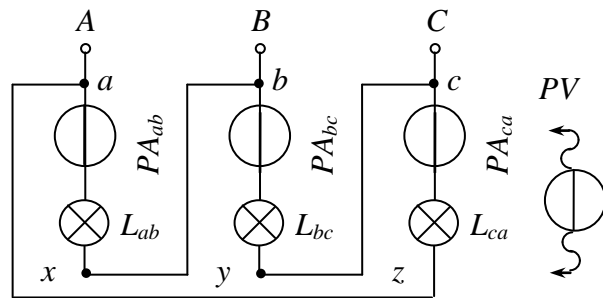

Fig. 7.5
2. Investigate the circuit (fig.7.5) with balanced loading (SB_1 and SB_2 closed, switch « $L \leftrightarrow \mathcal{I}$ » in position \mathcal{I}). Fill in the table 7.2 with results.
3. Investigate the circuit (fig.7.5) with non-balanced loading (SB_1 and SB_2 opened, switch « $L \leftrightarrow \mathcal{I}$ » in position \mathcal{I}). Fill in the table 17.3 with results.
4. Investigate the circuit (fig.7.5) with balanced loading ($SB 1$ and $SB 2$ closed, switch « $L \leftrightarrow \mathcal{I}$ » in position \mathcal{I}) when the phase ab is cut (no wire between x and b). Write down the results to the table 7.4, line 1. Investigate the circuit (fig.7.5) with a non-balanced loading ($SB 1$ and $SB 2$ open, switch « $L \leftrightarrow \mathcal{I}$ » in position \mathcal{I}) when the phase ab is cut (no wire between x and b). Fill in the line 2 of table 7.4 with results. Draw the vector diagrams of currents and voltages using the data from table 7.4.
The name and purpose of work. Homework – the calculation of the circuit. The schematic diagram of the investigated circuit (fig 7.5). The tables 7.2, 7.3, 7.4. The vector diagrams. The conclusions.